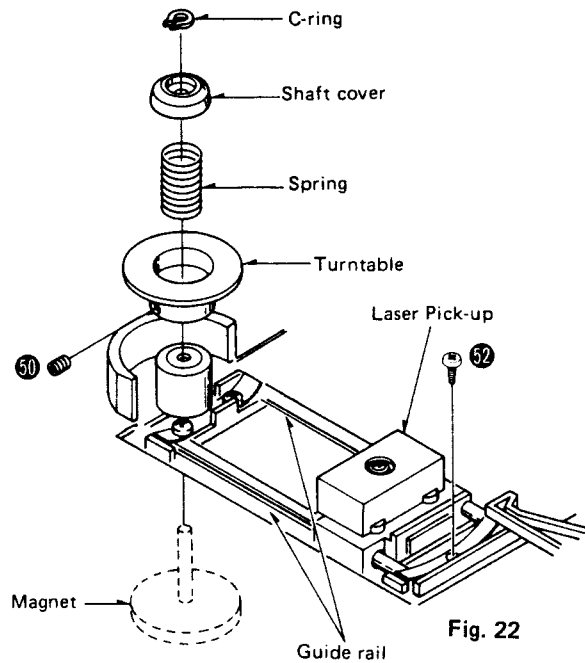

Fig. 22
3. Remove the C ring which fastens the magnet shaft of spindle motor. [Fig. 22]
4. Remove the screw [Fig. 22 : 50] by use of a hexagonal wrench, then the turntable can be removed.
5. Remove the guide rail retainer setscrew [Fig. 22 : 52] and pull out the laser pickup from the two guide rails.